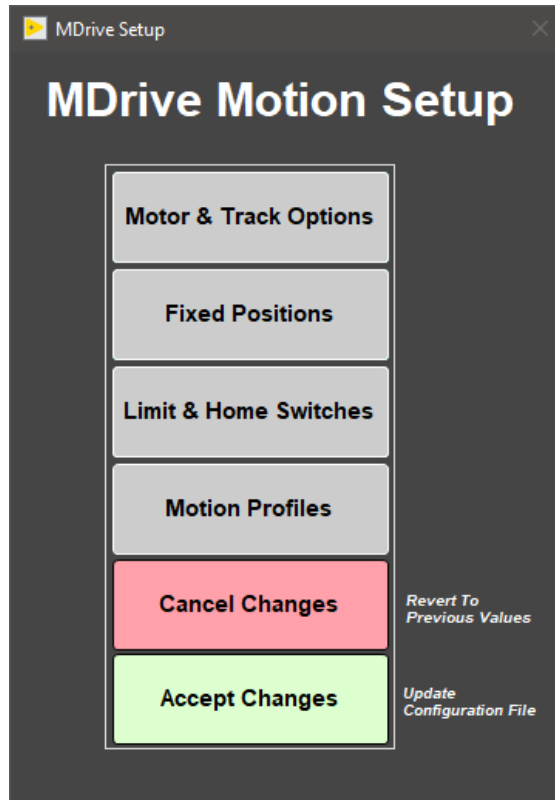

Figure 21. M-Drive Motion Setup
2. The M-Drive Motion Setup control panel will open (Figure 21).